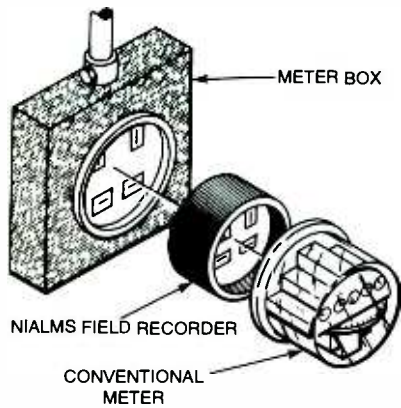

Fig. 1. The NIALMS Field Recorder is installed on the home's utility meter in between the meter box and the meter, as shown here.
NIALMS allow utilities to learn where, when, and how much electrical power consumers use. It can be done without entering homes to install monitoring devices on individual appliances. The NIALMS Field Recorder, illustrated in Fig. 1, is placed between the meter box and meter. The recorder is plugged in without any wiring and with only a short power interruption. That feature makes the NIALMS ideal for temporary troubleshooting.
Fig. 1. Solid-state diodes are available in two different configurations; point-contact (A) and junction (B) types. The current-vs.-voltage characteristic of the "ideal" PN-junction diode is illustrated in C. Note that there is no reverse-current flow through an ideal diode when reverse biased.